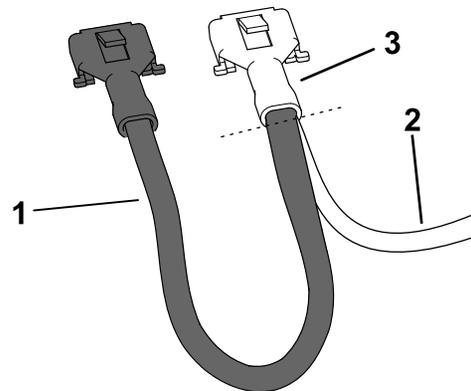

Figure 5
- Cut the short wire connected to both terminals as close to the dual terminated terminal as possible (Figure 5). Discard the wire.
2. Install the existing wire harness terminal and the new wire harness terminal into the connector as shown in Figure 5.